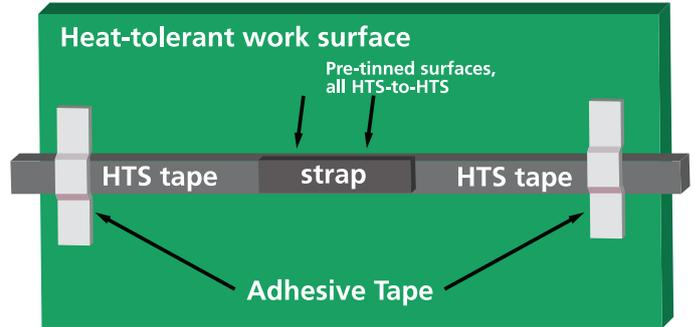

Figure 10. Method of positioning and securing HTS wires for soldering of strap splice overlap joints
- d. Roughly align the wires along their lengths and secure them in position. An example of how to do this is shown in Figure 10. Here, the wires are taped to a G-10 phenolic plate which provides a good heat-tolerant work surface. Note that the adhesive tape must be far enough away from the solder joint to avoid exposing it to excessive heat.